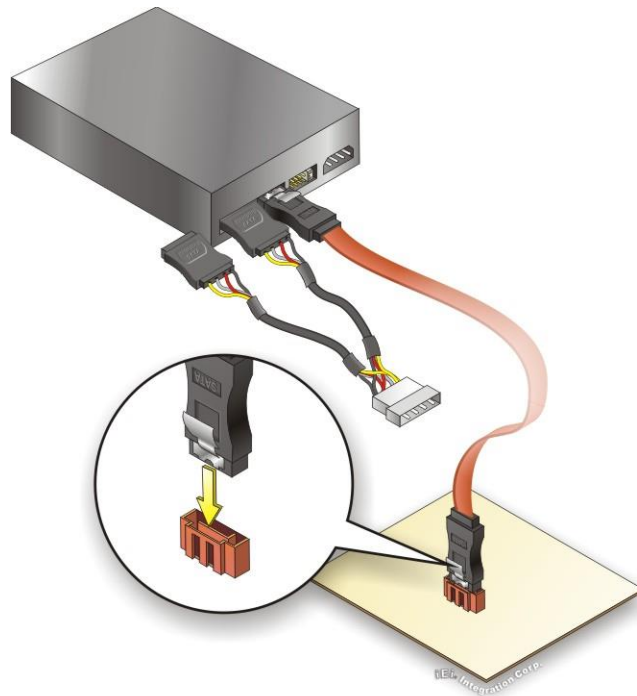

Figure 4-13: SATA Power Drive Connection
Step 3: Connect the cable to the SATA disk. Connect the connector on the other end of the cable to the connector at the back of the SATA drive. See **Figure 4-13**.
Step 4: Connect the SATA power cable. Connect the SATA power connector to the back of the SATA drive. See **Figure 4-13**.